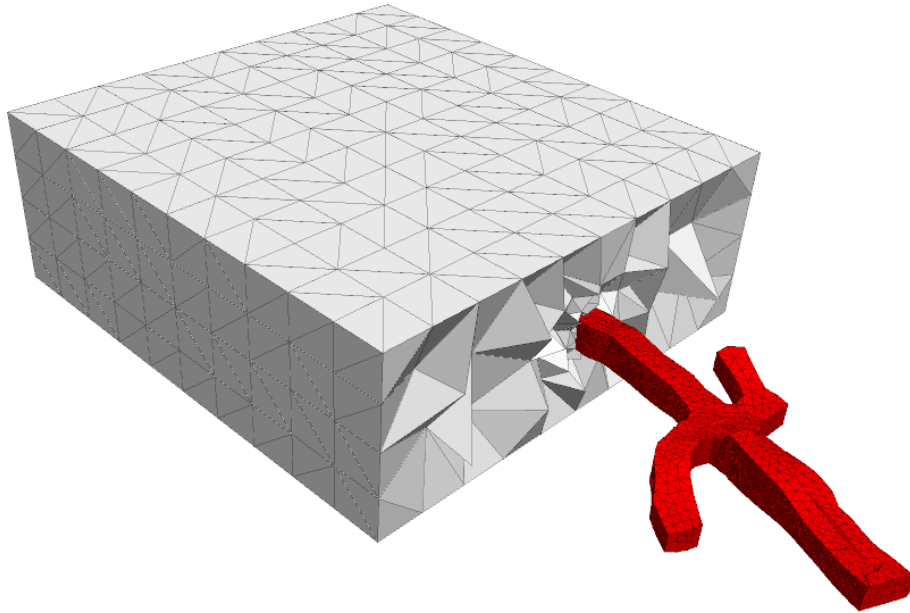

Figure 111: *Griddle* generated rigid tetrahedral blocks read into *3DEC*.
9. We can also **_SelMesh**, and run *GVol* with **Mode:Tet** with *3DEC* output to obtain a rigid block grid which can be read into *3DEC* (Figure 111). Note, *3DEC* output consists of a data file with *3DEC*